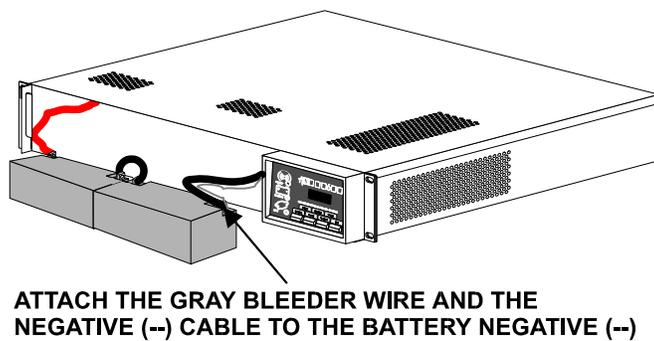

Figure 10
- c. Connect the gray and black wires to the negative (-) terminal on the right hand battery. (See Figure 10.)